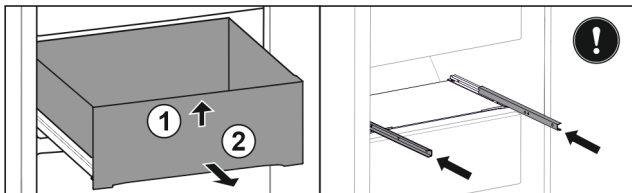

Fig. 99
- Lift up drawer at the front. Fig. 99 (1)
- Remove drawer to the front. Fig. 99 (2)